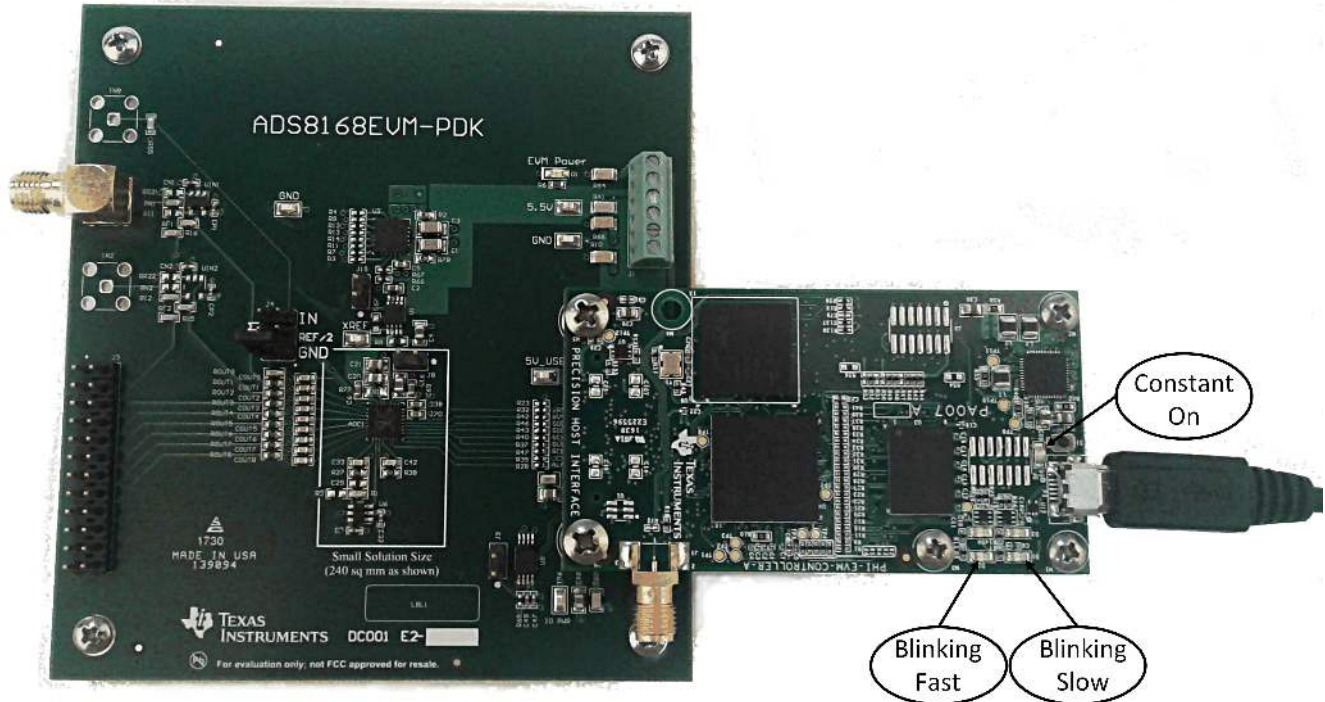

Figure 10. ADS8168EVM-PDK Hardware Setup and LED Indicators
1. Connect the ADS8168EVM to the PHI. Install the two screws as indicated in Figure 10.
2. LEDs D1 and D2 on the PHI starts blinking to indicate that the PHI is booted up and communicating with the PC. The resulting LED indicators are shown in Figure 10.